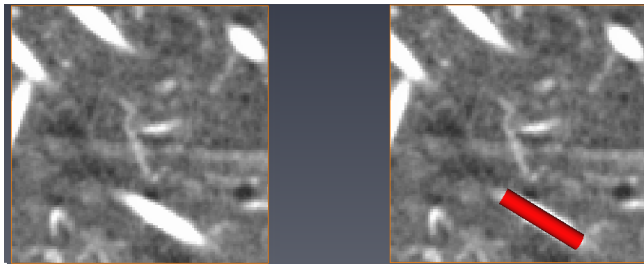

Figure 12.7: Visual Cylinder Length Setup
3. Once a fiber is visible on the slice along its main orientation, middle-click twice on the fiber to set the length of the cylinder with a start and end points. If the length is not satisfactory, repeat middle-clicking twice on the data (see Figure 12.7).